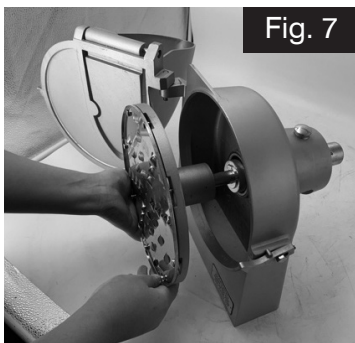
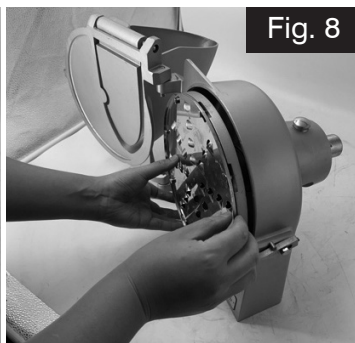

Fig. 7
Fig. 8
1. Lift the disc-holder assembly (Fig. 7) and insert it into the rear housing. (Fig. 8)